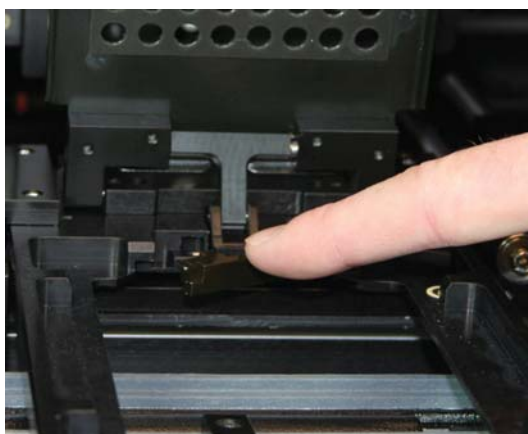

Figure 34. Open the clamp to the horizontal bar on the Microplate Sample Tray Cover.
2. Open the clamp holding the horizontal bar. See Figure 34.